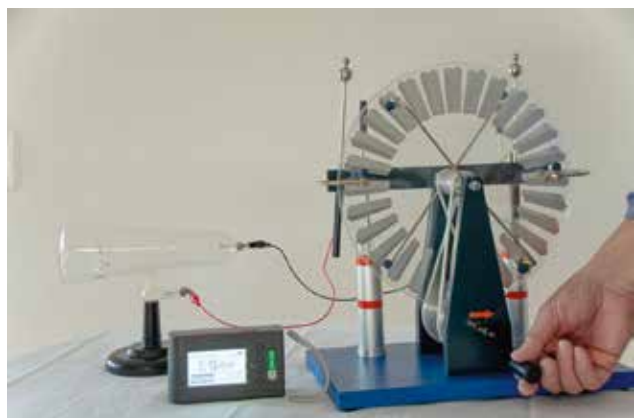

Bild 6: Schattenkreuzröhre mit Wimshurstgenerator (Influenzmaschine).
Figure 6. Effects of varying the front screen (A) and rear screen (B) copper thickness on image quality. A 0.100 mm lead screen is used in both cases. Note: The 0.000 mm Cu thickness data corresponds to the no screen exposure.